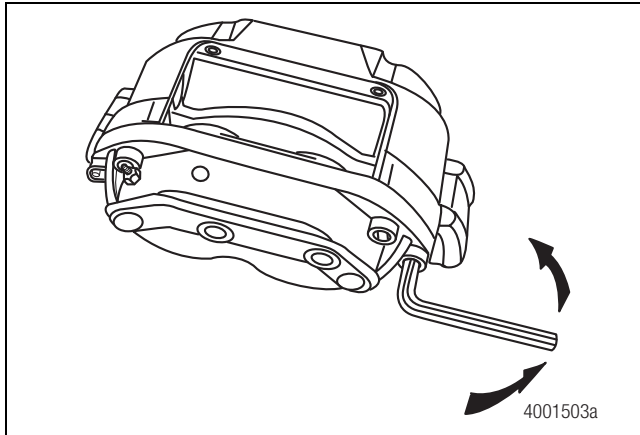

Figure 3.5
6. Remove the guide pin hole caps. Remove and discard the caliper bridge bolts. Do not reuse these bolts. Remove the caliper bridge. Figure 3.5.